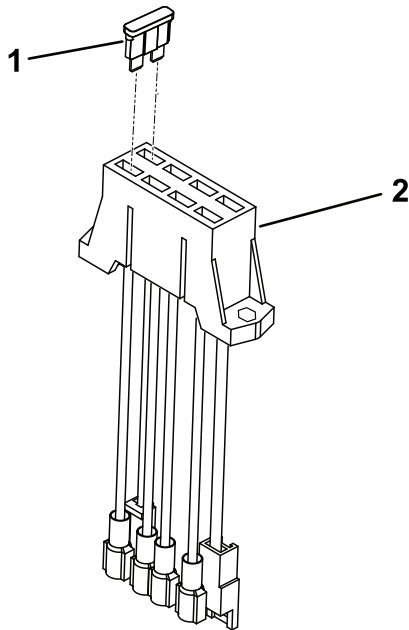

Figure 7
4. Insert the 20 A fuse into the slot in the fuse block (Figure 7).